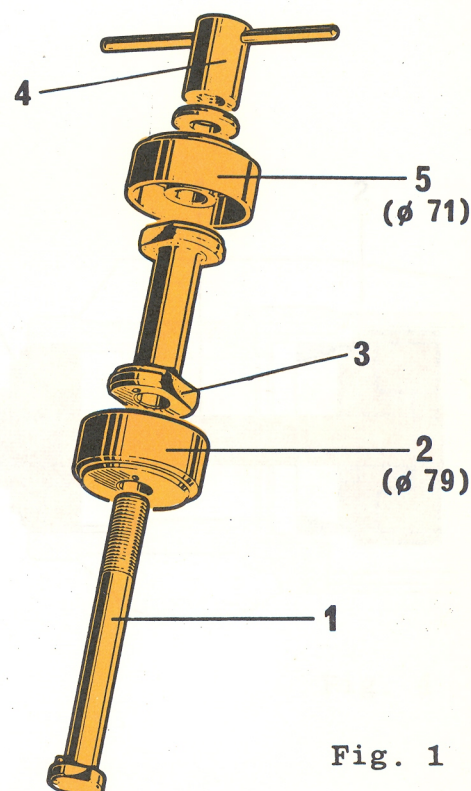

Fig. 1
- 3 Insert the screw "1" complete with the cup "2" (see fig. 1) into the pinion housing in such a way that the tool cup abuts against the seat of the bearing race.